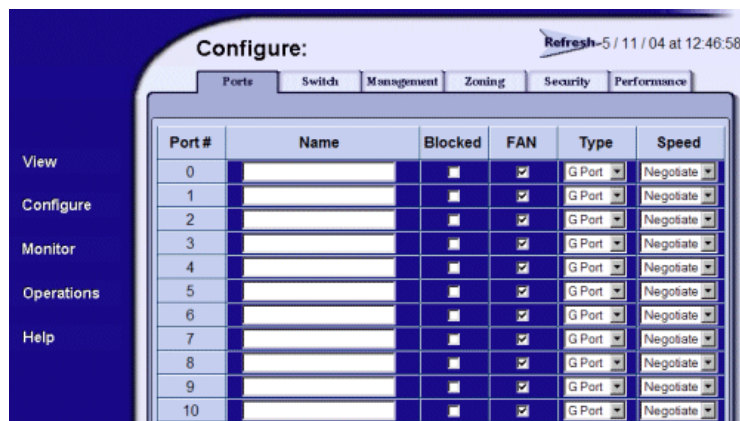

Figure 38: Block or unblock a port from the Configure window
1. Click **Configure** at the left side of the window. The **Configure** window opens with the **Ports** tab displayed (Figure 38).